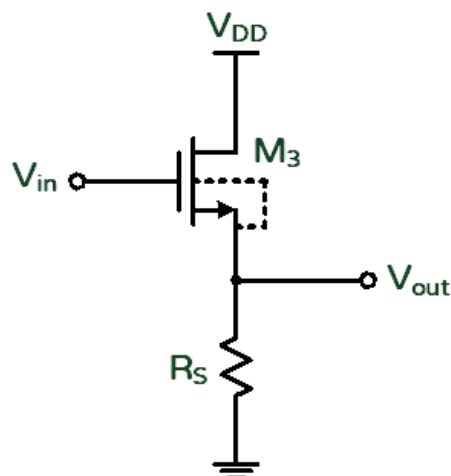

Fig. 3. A common drain amplifier
3. Common Drain (CD) (a.k.a. Source Follower, SF) (25%)
As shown in Fig. 3, we have a common drain (CD) stage with $V_{DD}=1.8V$.